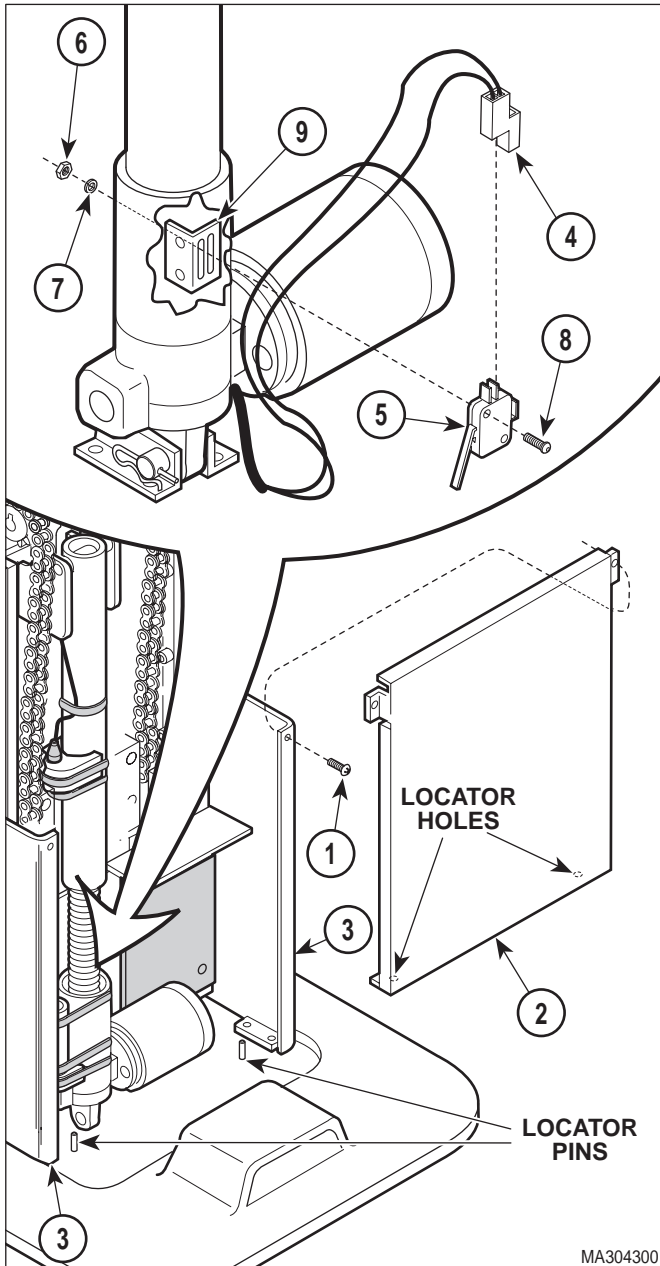

Figure 4-22. Base Down Limit Switch Removal / Installation
- (2) Unplug table power cord from wall outlet.
- (3) Remove two screws (1, Figure 4-22) and rear lower shroud (2) from R.H. and L.H. supports (3).
- (4) Disconnect wire harness (4) from base down limit switch (5).
- (5) Remove two nuts (6), lockwashers (7), screws (8), and base down limit switch (5) from switch bracket (9).